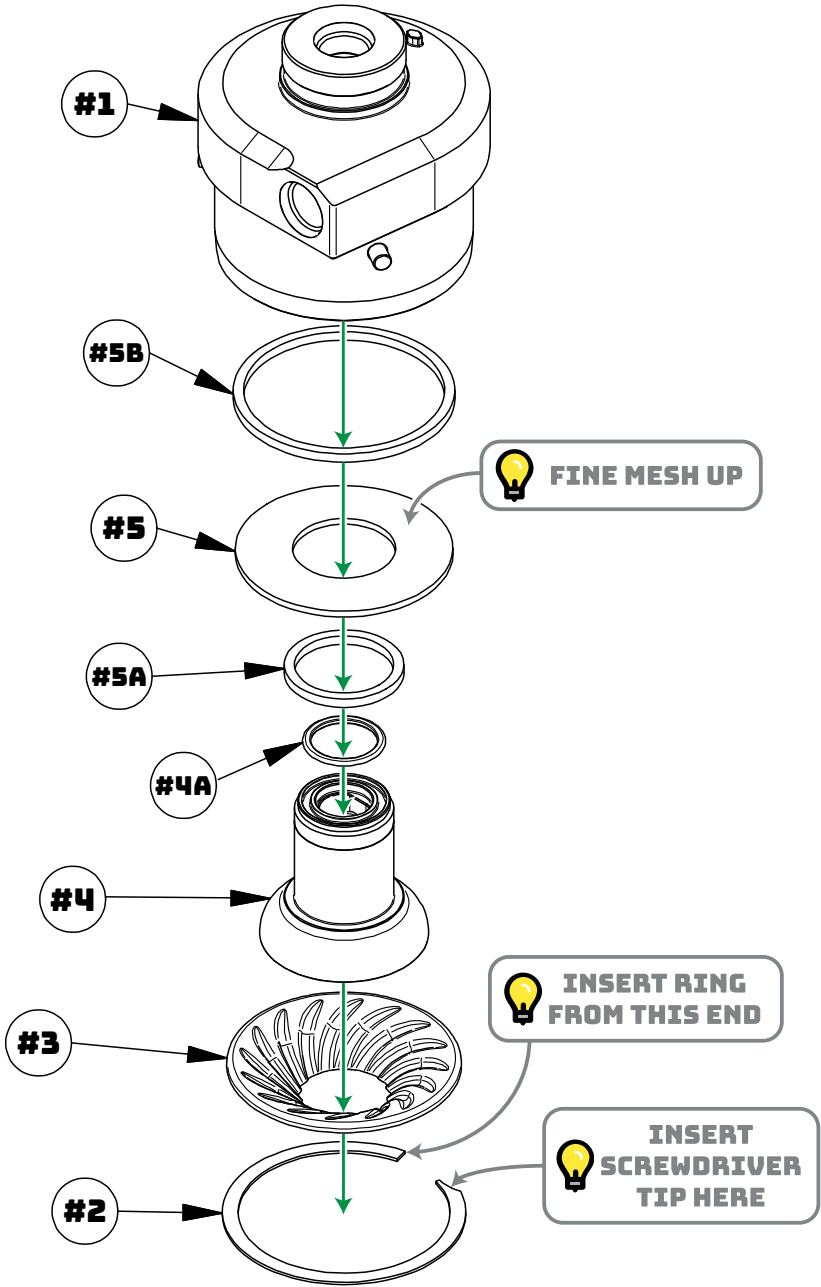

Figure 18 - Manifold Schematic
- 💡 Ensure the filter is installed in the same orientation it was removed, shown in Figure 18.
Follow these steps while looking at Figure 18 to remove the filter from the catch can top for cleaning. ***We also have a video of this available here.***